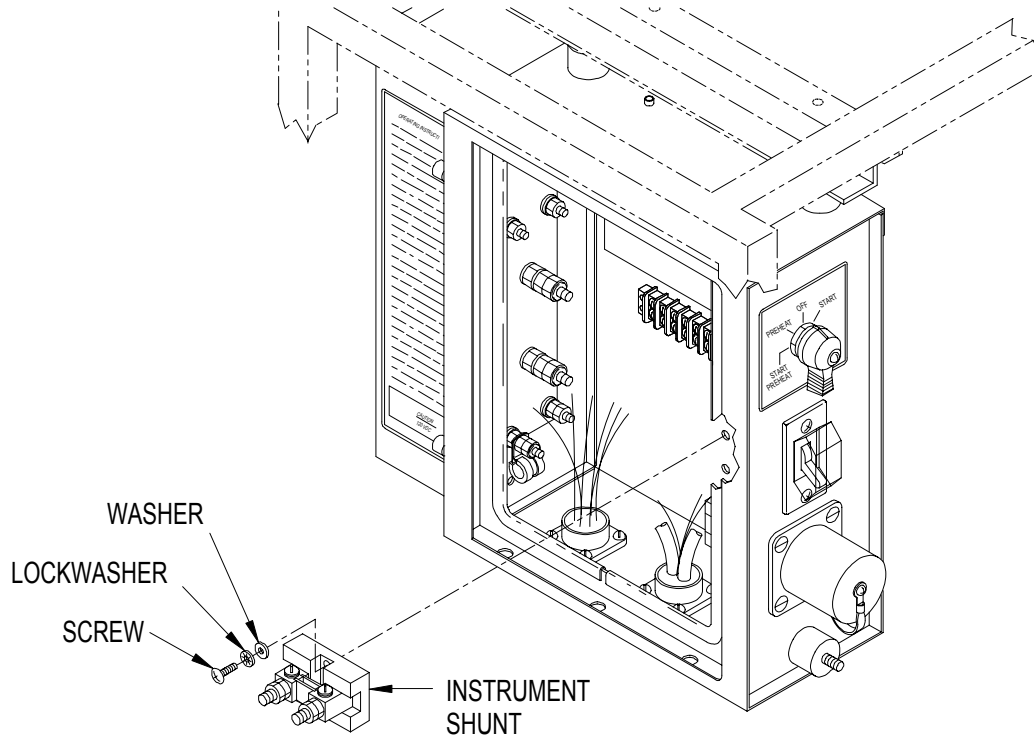

Figure 4-28. Instrument Shunt (MEP-501A)
- (1) Shut down generator set.
- (2) Release instrument panel by turning fastener, open instrument panel slowly.
- (3) Tag and disconnect electrical leads to instrument shunt (Figure 4-28).
- (4) Remove screws, lockwashers, and washers securing instrument shunt to control panel. Remove shunt resistor.
(1) Install instrument shunt (Figure 4-28) in control panel and secure with screws, lockwashers, and washers.
(2) Connect wires to instrument shunt terminals as tagged. Remove tags.
(3) Close and secure instrument panel.